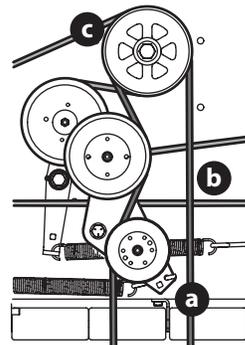

Figure 49
3. Using a 1/2" drive in the idler pulley bracket (a), turn the wrench towards the right of the mower and slide the PTO belt (b) off the PTO pulley (c) (Figure 49).